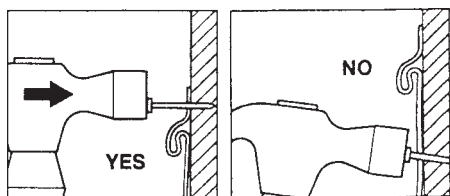

FIG. 8 Face Nailing of Vinyl Siding Prohibited
- 9.1.3 Do not face nail; it would restrict any thermal movement. (See Fig. 8.)